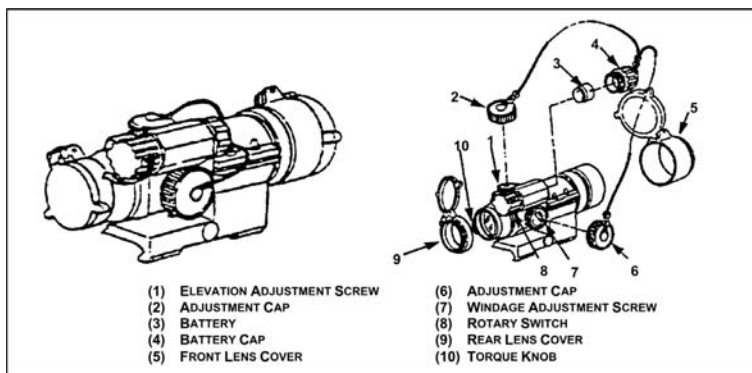

Figure 071-705-0004-3. M68, close combat optic
- a. Elevation adjustment screw (figure 071-705-0003-1): One click at 25 meters equals 4 millimeters; clockwise equals down.
- b. Windage adjustment screw (figure 071-705-0003-1): One click at 25 meters equals 4 millimeters; clockwise equals left.
- c. Rotary switch—10 positions (figure 071-705-0003-1):
- (1) Position 1 equals OFF.
- (2) Position 2 equals NIGHT.
- (3) Positions 3 through 10 equal daytime intensity.